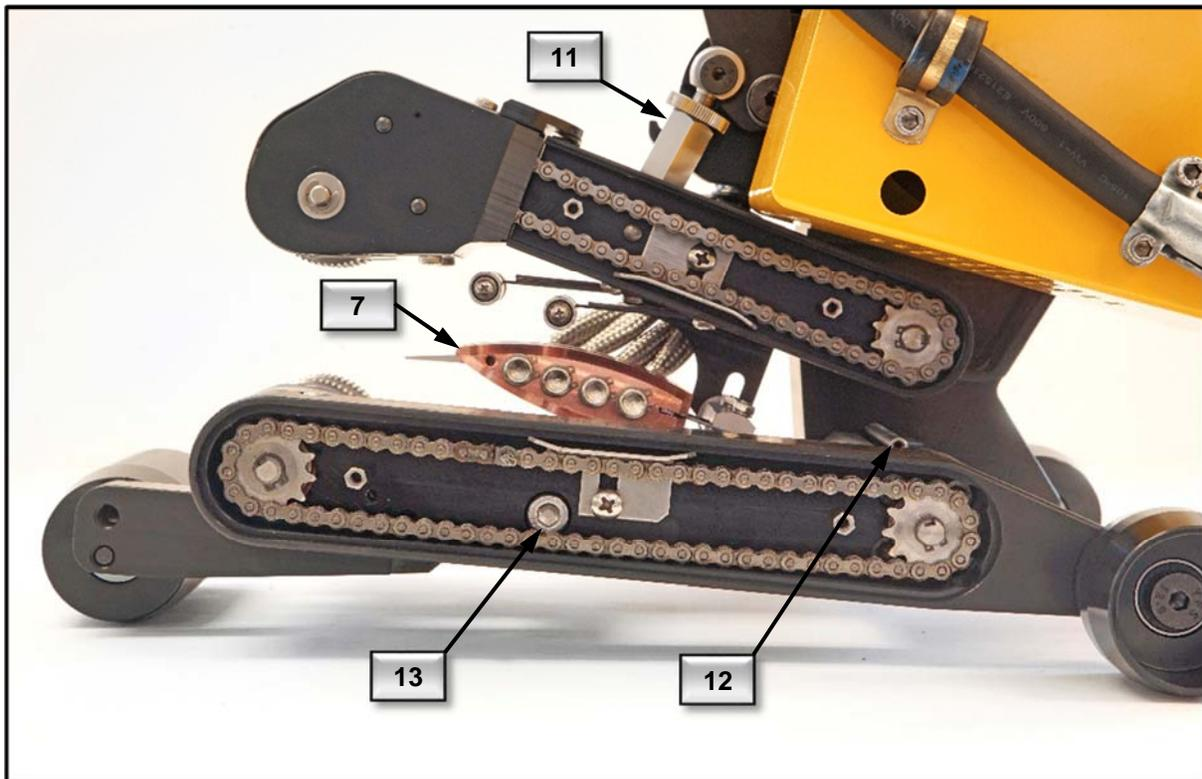
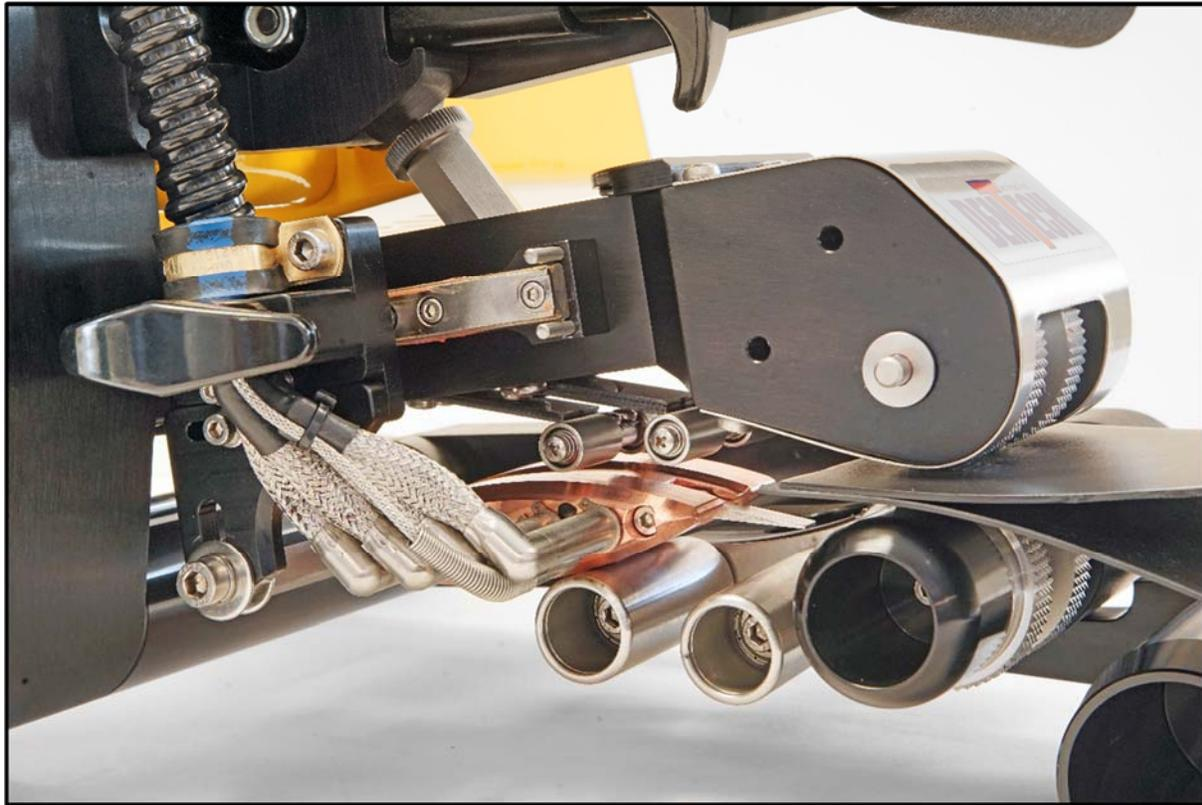

Figure 2
Figure 3
The nip pressure adjustment is located between the nip lever and upper nip arm; it is a hex shaped turnbuckle style nut (#11, Figure 2).
- 4.1.1 Make sure the heating wedge (#7, Figure 2) is in the disengaged position.
- 4.1.2 Turn the nip pressure adjustment hex nut (#11, Figure 2) clockwise while looking down from above several turns, raising the nip arm up to give a fresh starting point for this adjustment. **(Loosen set screw(s) on hex nut first if present to avoid damaging threads on eye bolts)**
- 4.1.4 Turn the hex nut (#11, Figure 2) counter clockwise until the nip rollers begin to pinch down on the material and you cannot turn the nut by hand anymore. This zeroes the adjustment.
- 4.1.6 Insert the adjustment material (the opposite end of the fold, two thicknesses) between the nip rollers and engage nip rollers together until the lock pin clicks into its detent as shown on the next page (Figure 3). Check pressure by attempting to move the material side to side. If you are able to move the material or pull the material straight out without the nip rollers turning, disengage the nip pressure and turn adjustment nut (#11, Figure 2) counter clockwise ¼ turn at a time until the desired pressure is reached. Remember to tighten the set screw(s) on the adjustment nut after you have completed adjustment of the nip pressure to prevent the pressure from backing off while welding.
- 4.2.1 Remove screw from the end of the shaft that the material guide plate (#12, Figure 2) pivots on, then slide material guide off of shaft and set aside.